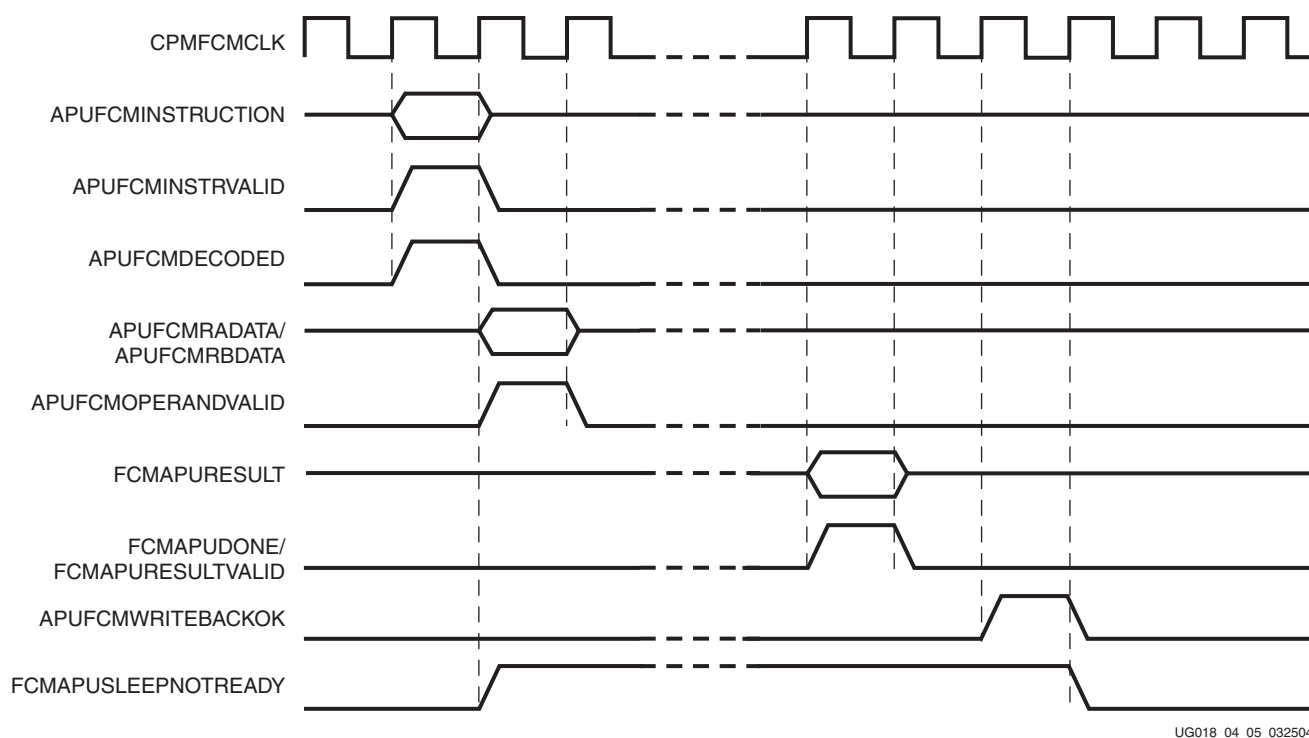

Figure 4-6: APU Controller Decoded Non-Blocking Transaction Example
For an APU controller decoded UDI instruction the following signals will always arrive at the same cycle: APUFCMINSTRUCTION[0:31], APUFCMINSTRVALID, and APUFCMDECODED (APUFCMDECODEI[0:2] and APUFCMDECODEIVALID are not shown in Figure 4-6, but they will also arrive the same cycle).
In the example shown in Figure 4-6, APUFCMRADATA/APUFCMRBDATA and APUFCMOPERANDVALID are seen one cycle after the instruction is presented. These signals can arrive at the same time as the instruction signals or anytime afterward. The timing of these signals depend both on the current situation in the CPU pipeline and the clock ratio between the FCM and CPU. However, in the case of non-blocking instructions APUFCMRADATA/APUFCMRBDATA and APUFCMOPERANDVALID will all arrive during the same cycle. It is not shown in this example, but APUFCMXERCA will be valid
In the example shown in Figure 4-6, FCMAPUSLEEPNOTREADY is set High the cycle after the instruction signals are received. This is the latest cycle the signal should go High and it should remain High until the instruction is completely finished in the FCM. The signal should not be lowered until APUFCMWRITEBACKOK has arrived but could remain High afterward.
**Note:** Actual timing results may vary from those shown in Figure 4-6. For example, the operands could come later than shown.
The example in Figure 4-15 is very similar to Figure 4-6. The major difference is that this FCM instruction is flushed.